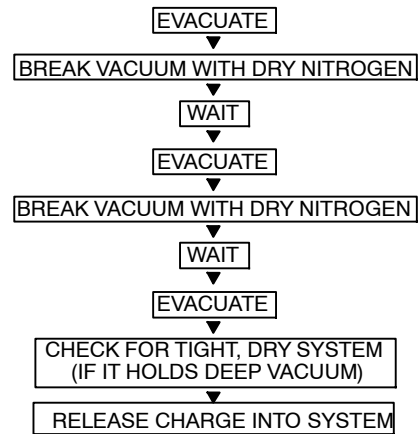

Fig. 21 Triple Evacuation Method
The triple evacuation method should only be used when the vacuum pump is only capable of pumping down to 28 in. of mercury vacuum and the system does not contain any liquid water. Refer to Fig. 21 and proceed as follows:
- 5 Repeat this procedure as indicated in Fig. 21. System will then be free of any contaminants and water vapor.